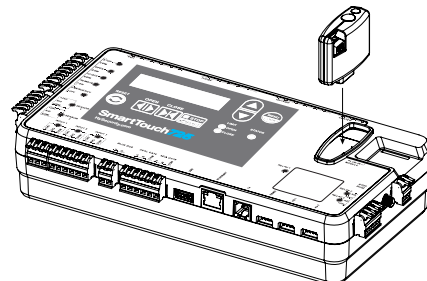

Figure 40. Install OXI Receiver
2. Remove the rubber plug or OXI receiver from OXI receiver slot (Figure 40).